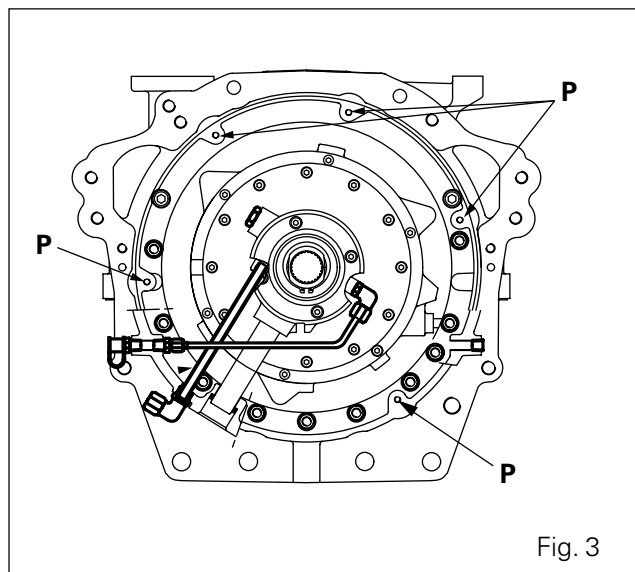

Fig. 3
6. Fit seal (57) using a suitable fixture.
7. Place O'ring (1) between rings (2). Reinstall splined bush (3). Replace front circlip (58) and position correctly in the groove.
8. Ensure presence of centring pins (61) and shims (9).
9. Replace O'ring (8).
10. Coat tapped-hole surrounds P with Loctite 5206 (Fig. 3).
28. If disassembled, coat finger (63) with Loctite 270 and screw into closing plate (10).
29. Ensure presence of centring pins (61). Replace O'ring (8).
30. Clean and coat hole surrounds P with Loctite 5206 (Fig. 3).
32. Fit screws (5) (62) with washers (6) then insert and torque to 25 - 35 Nm.